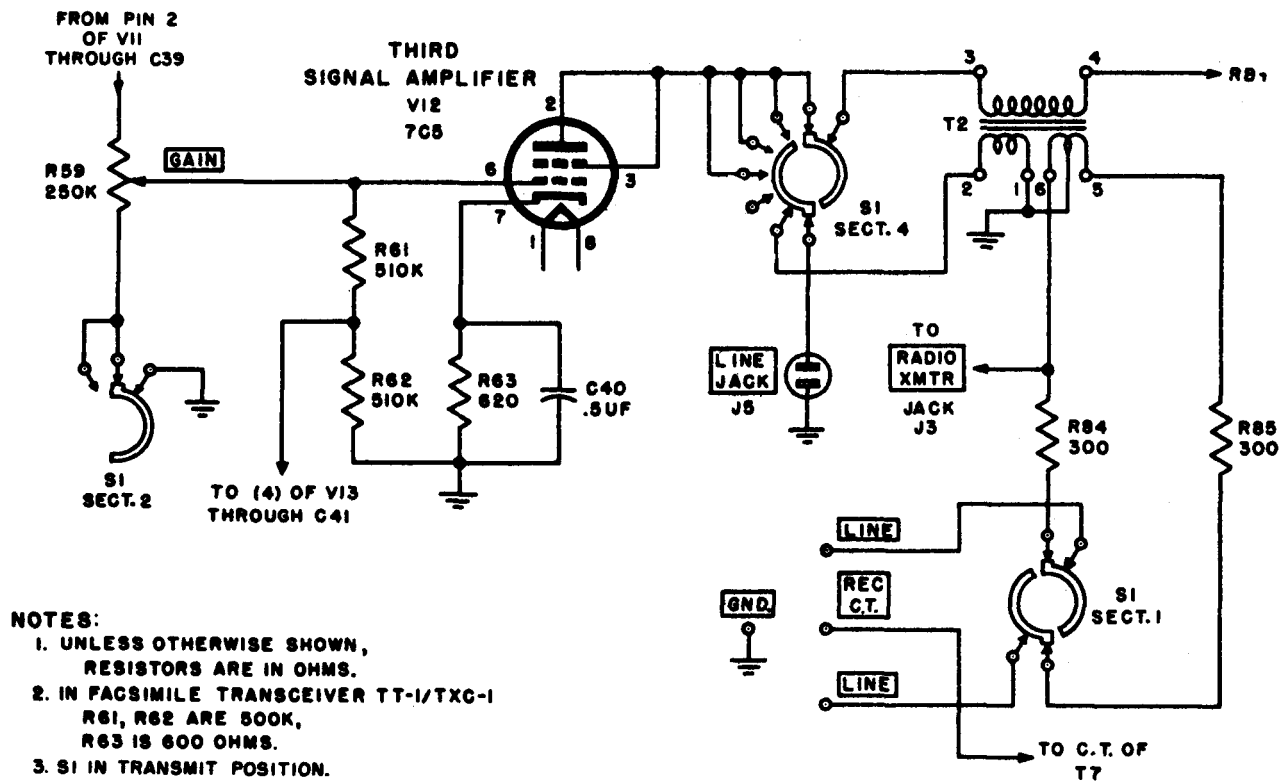

Figure 54. Third signal amplifier.
c. *Third Signal Amplifier (V12)* (fig. 54). The third signal amplifier is a triode-connected, Class A signal amplifier, using a 7C5 tube, which serves as the transceiver output amplifier on transmitting and as a driver stage for V14 (Class B stage) on photo recording. Tube V12 is in the facsimile signal circuit only when the selector switch is in the TRANSMIT, SET RANGE, or RECORD PHOTO position. The stage amplifies modulated 1,800-cycle signals in both transmitting and receiving functions. The stage is also used in the talk-back circuit of Facsimile Transceivers TT-1A/TXC-1 through TT-1F/TXC-1.